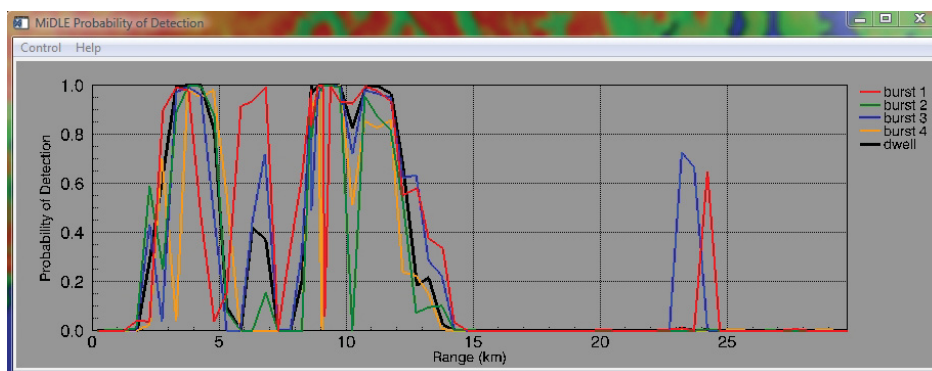

Figure 73: Probability of Detection vs. Range Plot
The plot of probability of detection (PD) vs. range is shown in Figure 73. The plot shows the PD values for each of the four colour coded bursts plus the dwell probability of detection (shown in black).